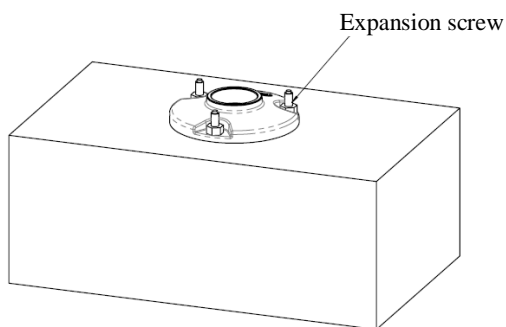
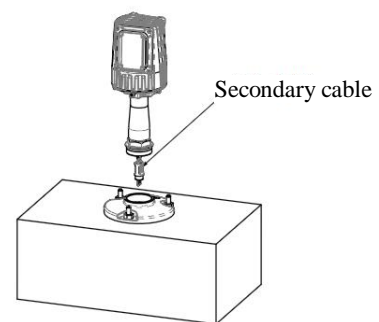

Figure 3-4
Figure 3-5
- After installation of chassis (embedded pile) (See Figure 3-4), in accordance with construction requirements, connect secondary cable, and screw frangible pole of the lighting fixtures in the threaded hole on flanges. (See Figure 3-5).